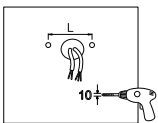

Figure 13
1. YOKE MOUNTING (YM)
Step 1: Drill holes on the wall as shown(Figure 13);